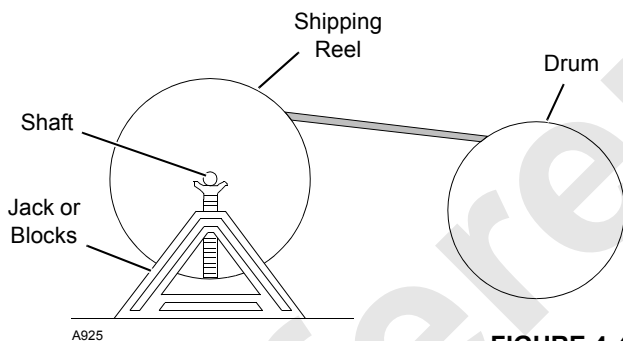

FIGURE 4-47
1. Mount wire rope shipping reel on a shaft supported at both ends by jacks or blocks as shown in Figure 4-47.